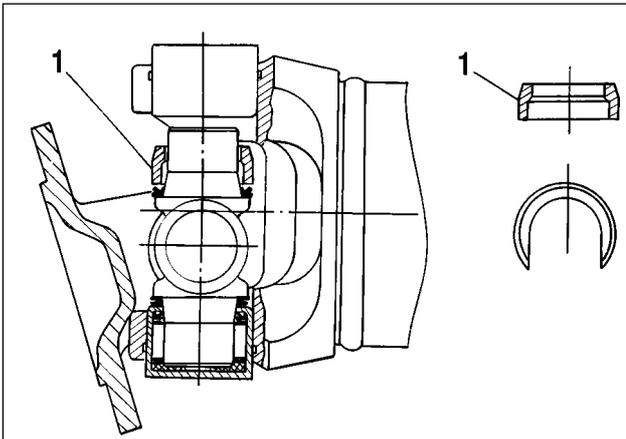

Fig. 3-51. Installing the bush for dismantling the U-joint:
- turnover the yoke, repeat the described operations, i.e. move the other end of the yoke down to press against the spider. When performing these operations the opposite spider bearing will partially leave the yoke aperture and in the formed gap between the yoke and spider it will be possible to place bush 1 (fig. 3-51) with a side notch for further complete dismantle;
- place bush 1 (see fig. 3-51) on the spider stud, move the U-joint yoke down to press out the bearing;